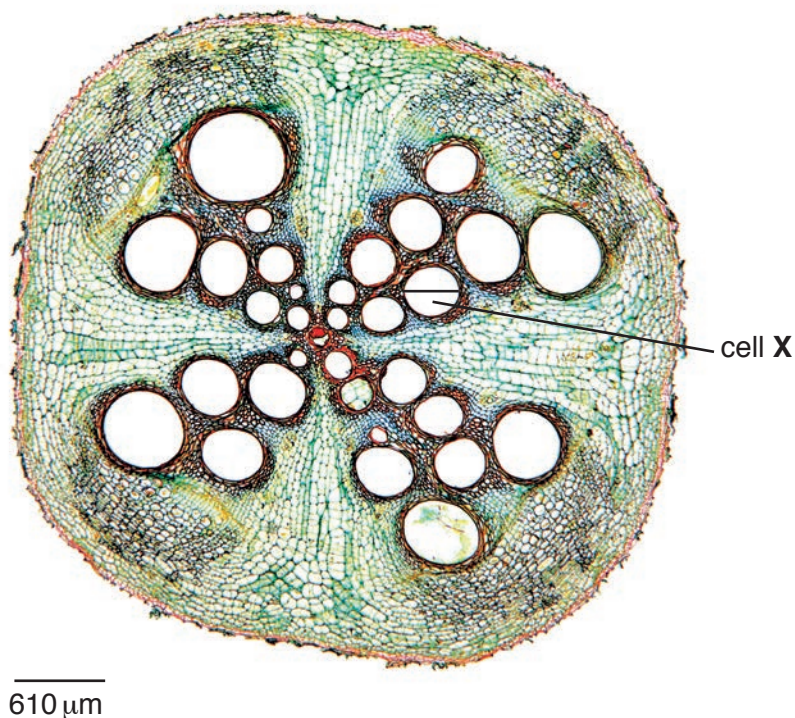

Fig. 2.1
- (b) Fig. 2.1 is a photomicrograph of a stained transverse section through a root from a different type of plant.
- (i) In Fig. 2.1 a line is drawn across the diameter of a cell, **X**.
- (ii) Prepare the space below so that it is suitable for you to record the observable differences between the stem on **N1** and the root in Fig. 2.1.